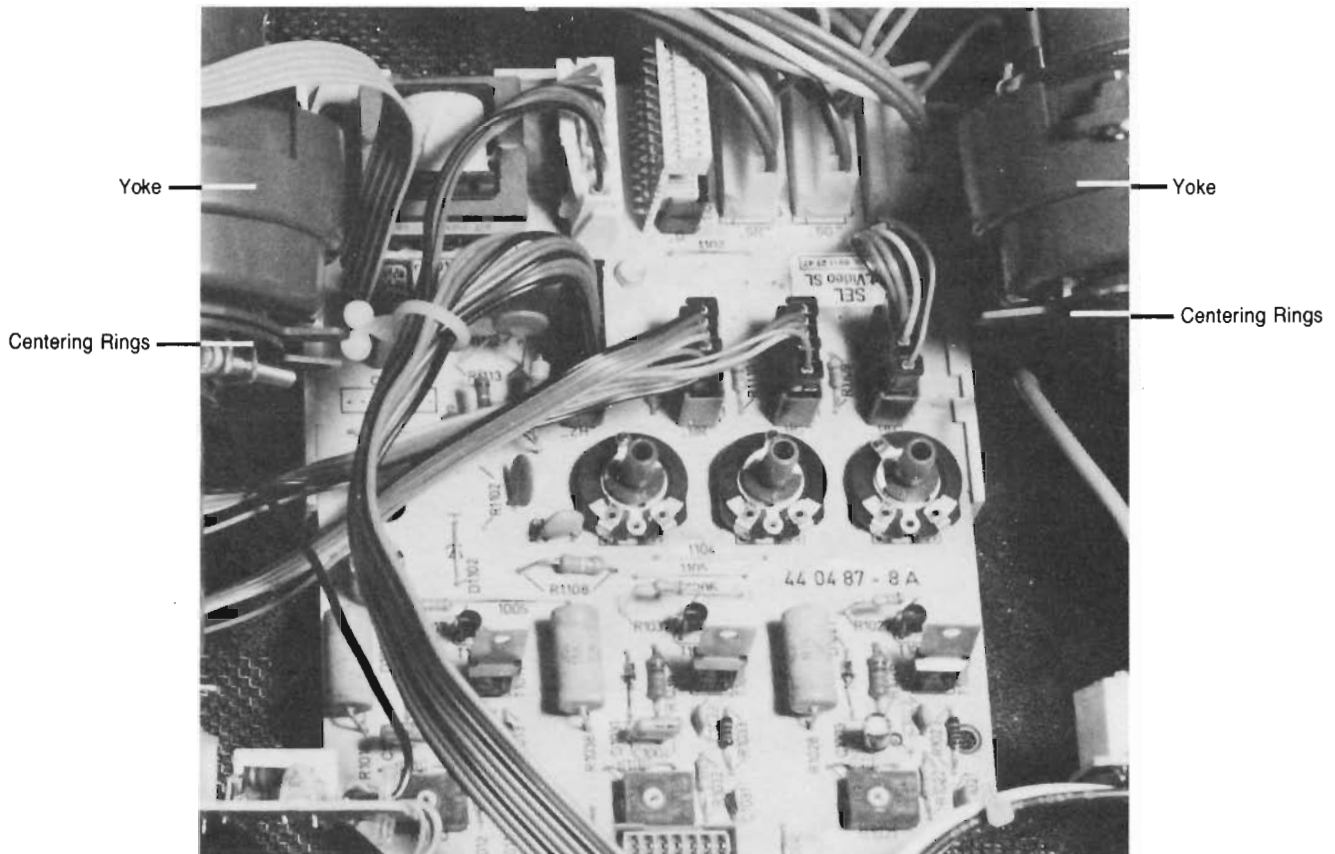

Figure 20
1. Locate the two “centering rings” at the rear of the yoke assembly. (Refer to Figure 20.)